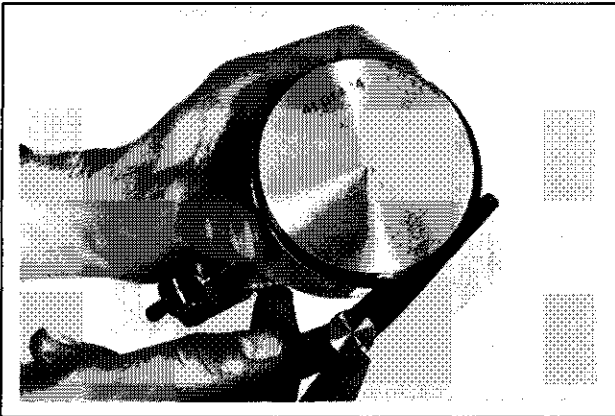

Figure 10-14. Measuring Piston Ring Side Clearance.
- After installing the new compression (top and middle) rings on piston, check piston-to-ring side clearance. Maximum recommended side clearance is $.006''$. If side clearance is greater than $.006''$, a new piston must be used. Refer to Figure 10-14.